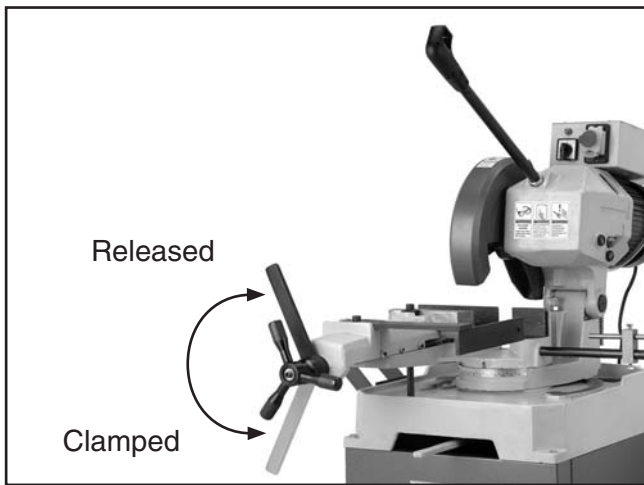

Figure 31. Quick release lever positions.
5. Rotate the quick release lever counterclockwise to clamp the workpiece. Between cuts, rotate the lever clockwise to release the workpiece, then counterclockwise again to re-clamp it (**Figure 31**).